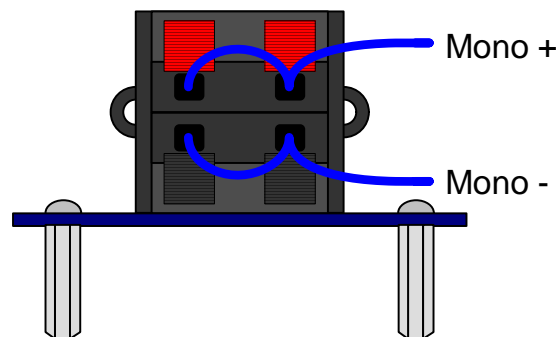

Figure 2. Mono Parallel Full-Bridge Speaker Terminal Configuration
5. Wire the two red-terminal speaker outputs together on the CRD4412A as shown in Figure 2.
6. Wire the two black-terminal speaker output together on the CRD4412A as shown in Figure 2.